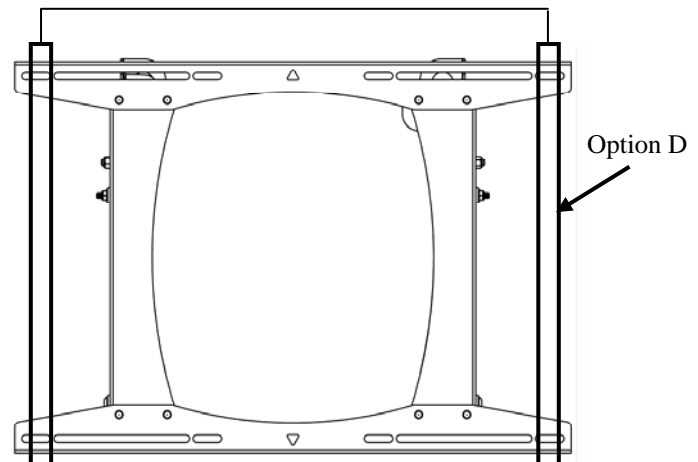

Figure 7. Mounting Holes – 24" Apart On Center (Option D)
- **Option D.** Install four 5/16" x 2 1/2" lag bolts and four 5/16" washers (two top and two bottom) into the mounting holes, centering the PRO on dual wood studs 24" apart on center as shown in Figure 7.